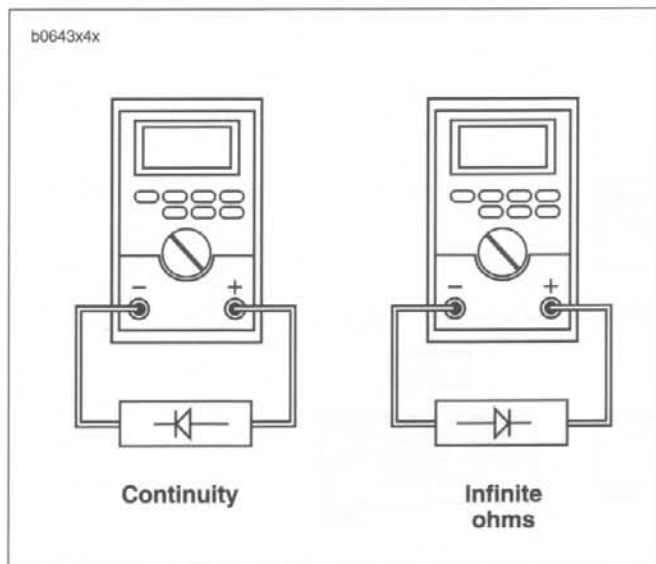

Figure 7-5. Ohmmeter Diode Test
1. Check diode with an ohmmeter as shown in Figure 7-5.